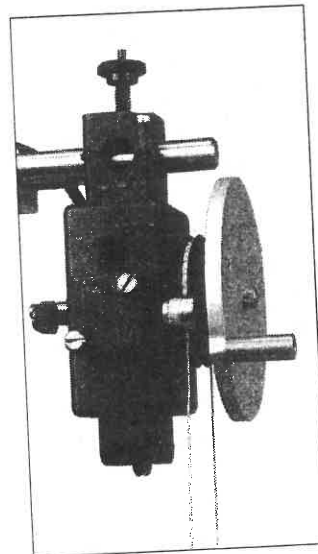

Figure 5. Magnetic Drag Accessory
- Attach the magnetic drag accessory to the side of the Rotary Motion Sensor as shown in Figure 5.